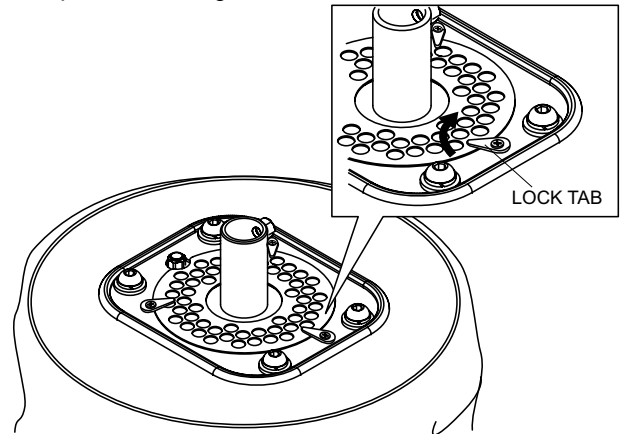

Figure 30. Locking Air Plate
6. Turn the three locking tabs inwards to lock the air plate in place. See Figure 30.